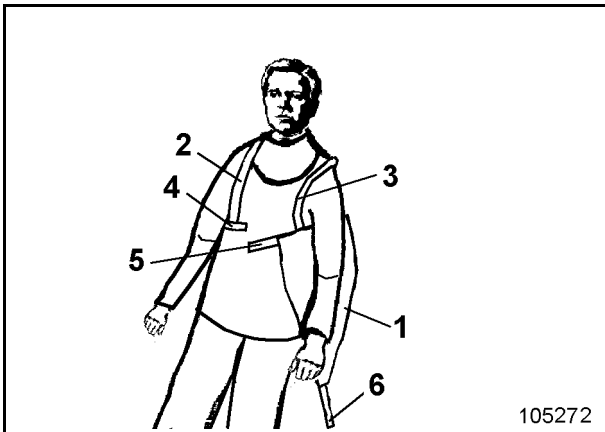
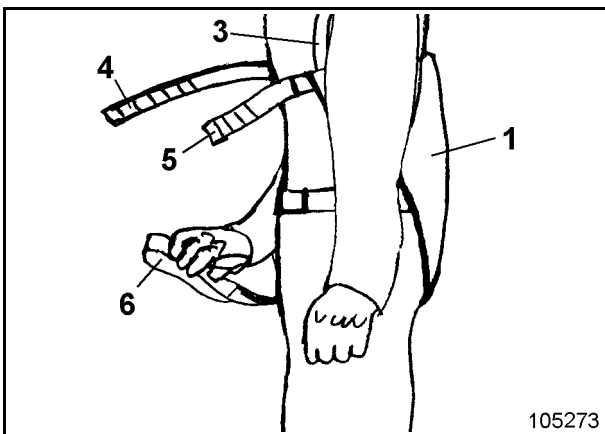

Fig. 2-35:
Fig. 2-36:
- Take on shoulder belts (2 and 3, Fig. 2-35:)
- Pull back support (1, Fig. 2-35:) behind your body (Fig. 2-36:)
- Pull loop (6) of the back support (1) between your legs to the front (Fig. 2-36:)